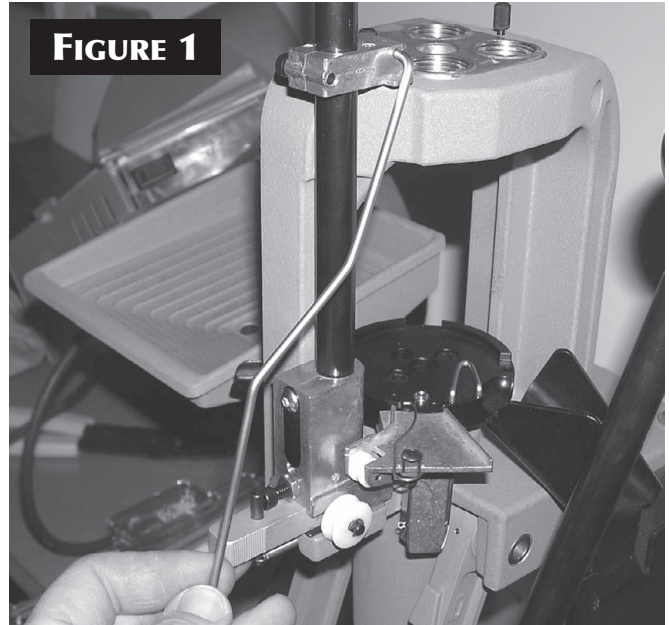

FIGURE 1
2. Begin by removing the operating rod from the primer system [FIGURE 1].